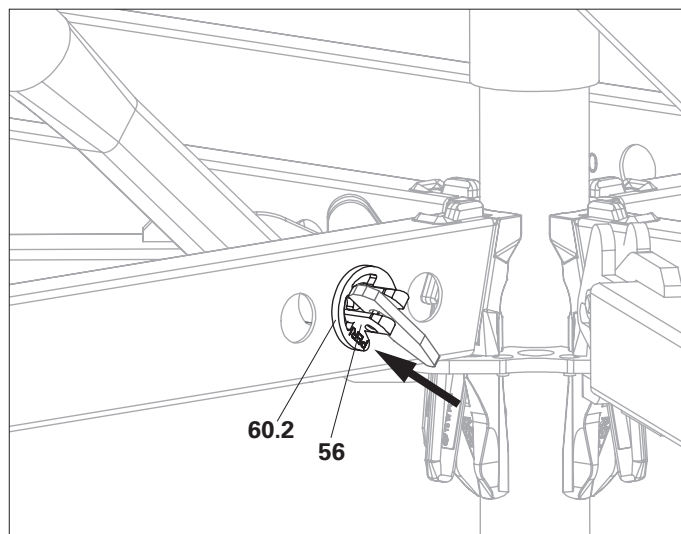

Fig. A4.06
2. Remove the ledger brace. (Fig. A4.06)